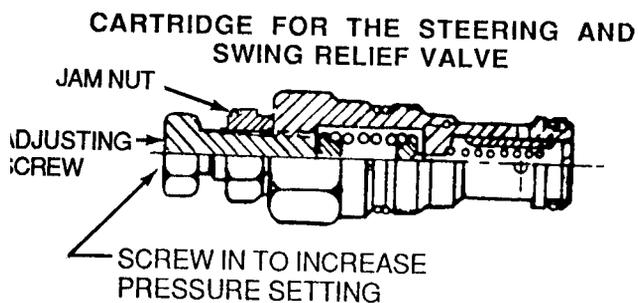

Figure 13-3
6. Hold adjusting screw and loosen jam nut. Hold steering wheel in full position and turn adjusting screw clockwise to increase pressure or counterclockwise to decrease pressure until desired pressure setting is obtained (Figure 13-3).